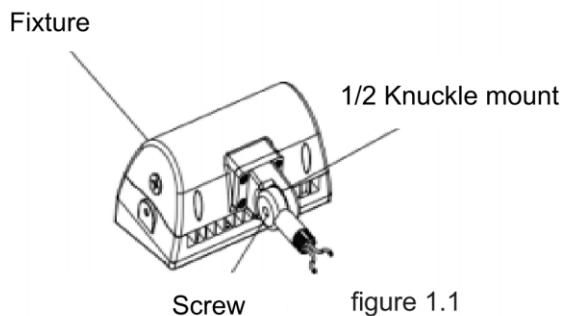

figure 1.1
- Make all appropriate electrical connections (figure 1.1). See wiring diagram for proper connections.